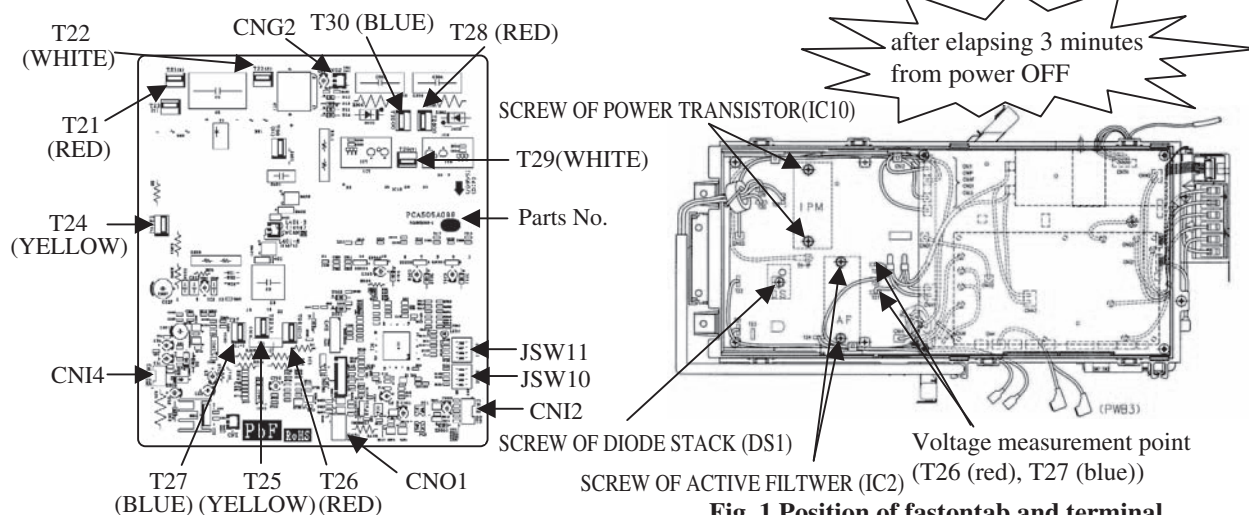

Fig. 1 Position of fastontab and terminal
- Take off the connection of inverter PCB terminal and connector, and remove the screw of power transistor (IC10), active filter (IC2), and diode stack (DS1) then remove the PCB. Wipe off the silicon grease neatly on the controller's radiation heat fins. (Refer to Fig.1 and Parts arrangement view)